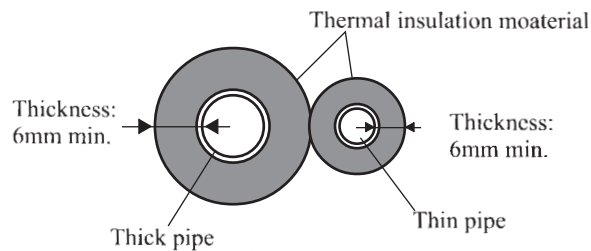

Fig 26
- (1) To avoid condensation dew and leakage of water, the thick pipe and thin pipe should be wrapped with thermal insulation material and gummed tape for insulation (see Fig. 26).